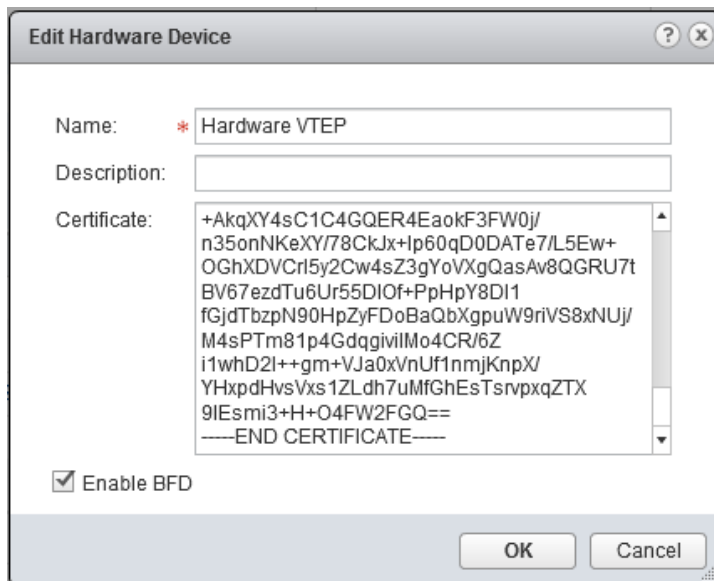

Figure 97 Creating a Hardware Device in VMware NSX
- b. In the **Certificate** box, paste the certificate output from the S4048-ON as shown in Figure 97.